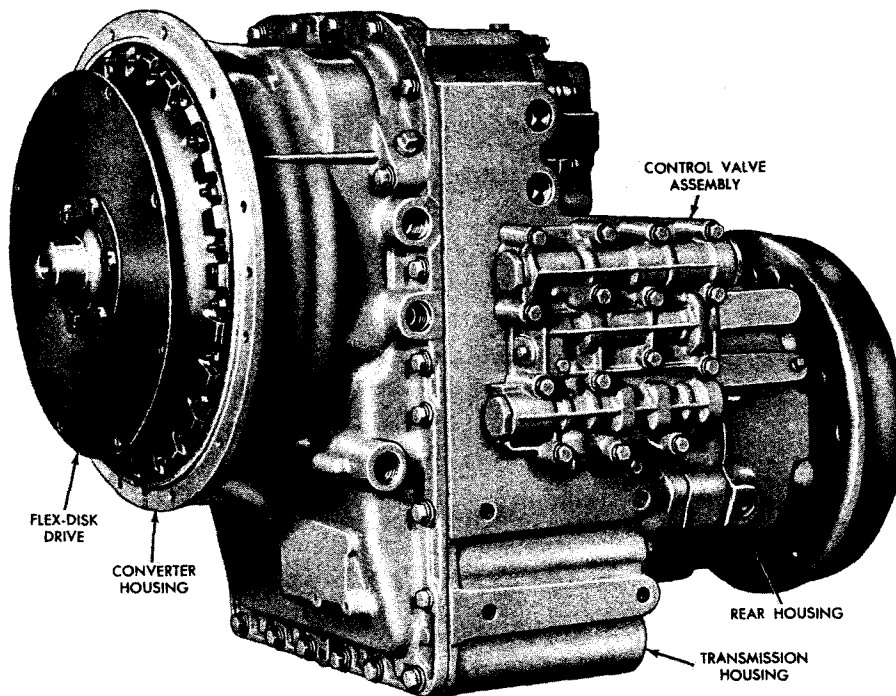
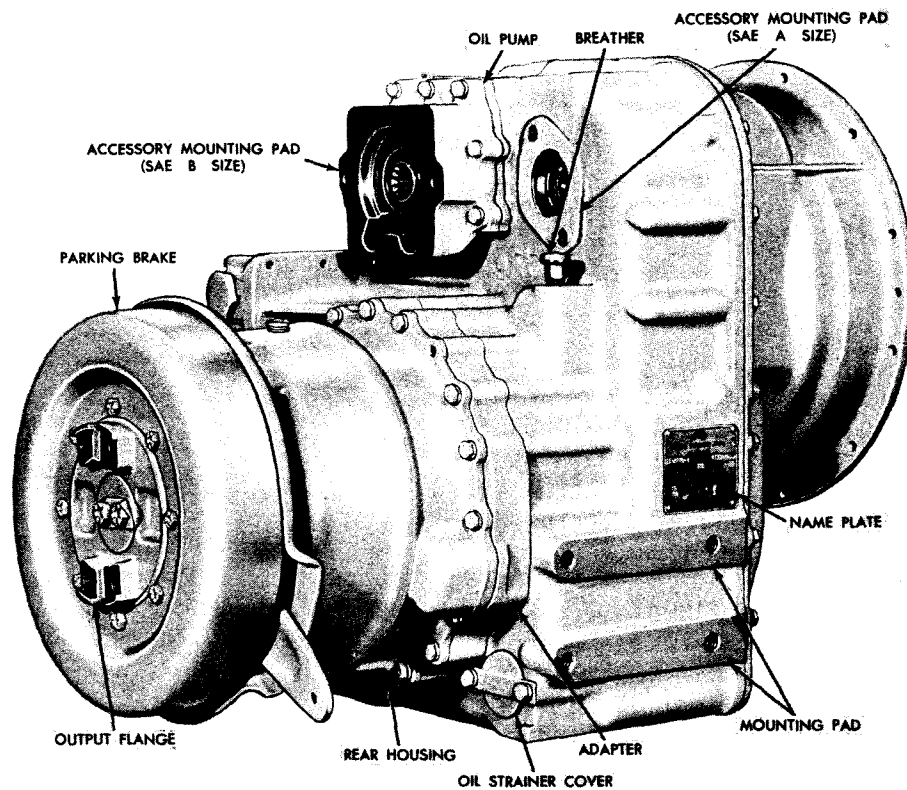
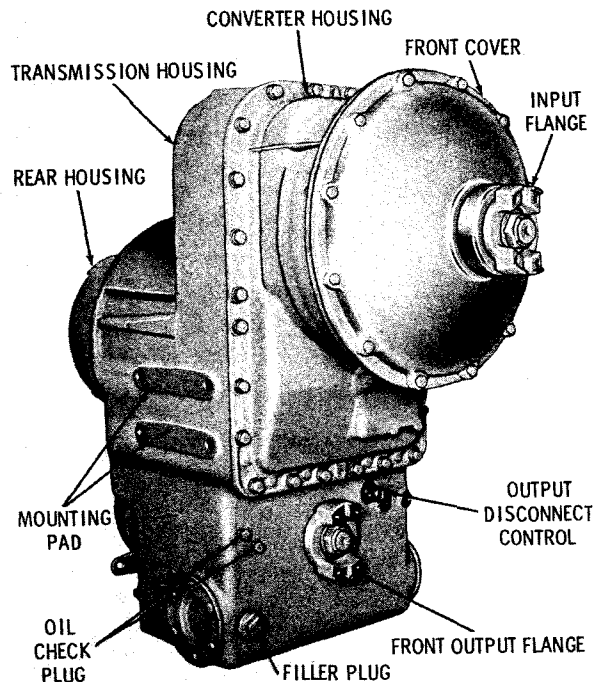

Fig. 1-1. Model TRT 2221-3 (or 2421-3) transmission—left-front view
Fig. 1-2. Model TRT 2221-3 (or 2421-3) transmission—right-rear view
Fig. 1-3. Model TRT 2221-1 (or 2421-1) transmission—right-front view
Figures 1-1 through 1-6 are representative of the model configurations covered in this manual. The various features available for these models are discussed, and the function and operation of the hydraulic systems and torque paths are explained. Wear limits information, parts inspection procedures and torque specifications also are included.
b. Mounting and Input Drive. The transmission may be direct mounted (fig. 1-1) or remote mounted (fig. 1-3). Direct-mount models are bolted directly to the engine flywheel housing and coupled to the engine flywheel by a flexible disk drive. Provision is made in the direct-mount models to isolate the accessory drive gears from the flywheel cavity, to provide a dry flywheel housing while maintaining lubrication for the gears.
g. Oil Pump. A positive displacement, gear-type oil pump furnishes the oil flow and pressure necessary for hydraulic operation, lubrication and cooling of the transmission components. An SAE B or C accessory mounting pad is available on the pump (fig. 1-2).
(1) The control valve body assembly is mounted on the left side of the transmission housing (fig. 1-1). The control valve assembly is equipped with either a clutch cutoff feature or an inching control valve.
(2) The clutch cutoff valve may be either pneumatically or hydraulically actuated (depending on vehicle brakes). When the vehicle brakes are applied, the valve releases the transmission drive clutch. Thus, when the vehicle is brought to a stop by the brakes, the PTO-driven equipment will have full engine power, without shifting the transmission to neutral. The inching control is manually operated and allows the drive clutch to slip while "inching" or maneuvering the vehicle in confined areas.
j. Power Takeoff Locations. The TRT 2001 series transmissions have two locations for accessory power takeoff (fig. 1-2). One location is at the transmission oil pump, which has an SAE C pad with a 4-bolt mounting flange. Optional 2-bolt mounting flanges are available with either an SAE B or C pad (refer to A, foldout 15). The drive ratio is 0.91 (optional 1.00) times engine speed. A second power takeoff pad, located to the right of the oil pump, provides an SAE A, 2-bolt pad (fig. 1-2). The drive ratio is the same at both power takeoff pads.